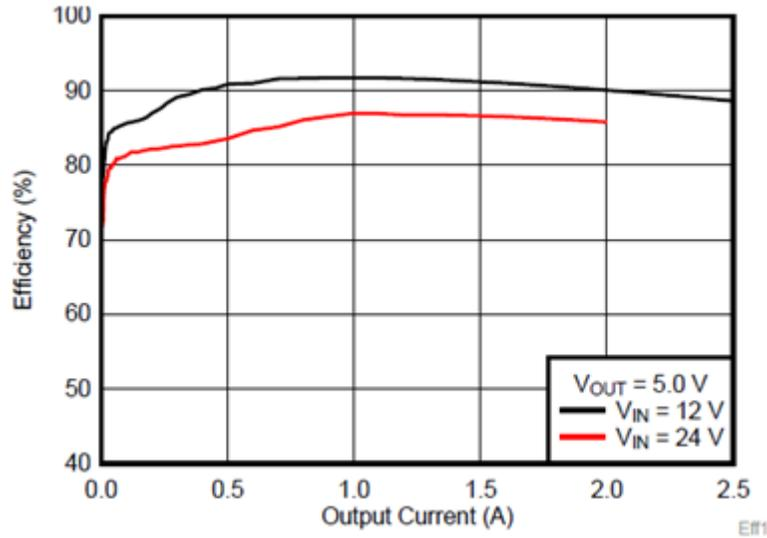

Figure 1. TPSM84209 Efficiency vs Output Current
Power modules are built with several different manufacturing techniques, each with pros and cons. Figure 1 highlights some of the different approaches, including embedding the integrated circuit (IC) in a laminate, putting components onto a laminate and overmolding (or not), or putting components onto a metal leadframe and overmolding.
The Θ_{ja} of the TPSM84209 is just 32.7°C/W vs 46.1°C/W for the TPS82130 (a 17V/3A embedded MicroSiP™ module). This allows higher output currents at higher temperatures (see Figures 3 and Figure 1)